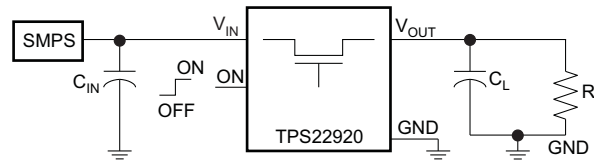

図 10. TPS22920 Simplified Application Circuit
The TPS22920 is a small, space-saving load switch with controlled turn-on to reduce inrush current (see Figure 10). The device contains a N-channel MOSFET that can operate over an input voltage range of 0.75 V to 3.6 V and switch currents up to 4 A. An integrated charge pump biases the NMOS switch to achieve a minimum switch ON resistance (R_{ON}). The switch is controlled by an on/off input (ON), which is capable of interfacing directly with low-voltage control signals. The TPS22920 has a 1250- Ω on-chip resistor for quick output discharge when the switch is turned off, which ensures that the output is not left floating. The TPS22920 has an internally controlled rise time to reduce inrush current. The TPS22920 is available in an ultra-small, space-saving 8-pin CSP package.